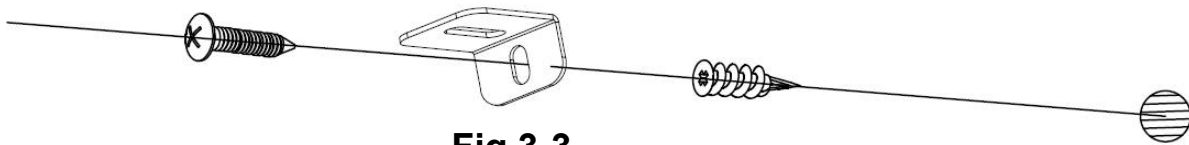

Fig 3-3
C. Install the plastic anchor into the dry wall, then install the screw **B** (supplied) into the hole of the L-bracket into the wall anchor to secure the fireplace from coming off the hooks. **(Fig 3-3)**